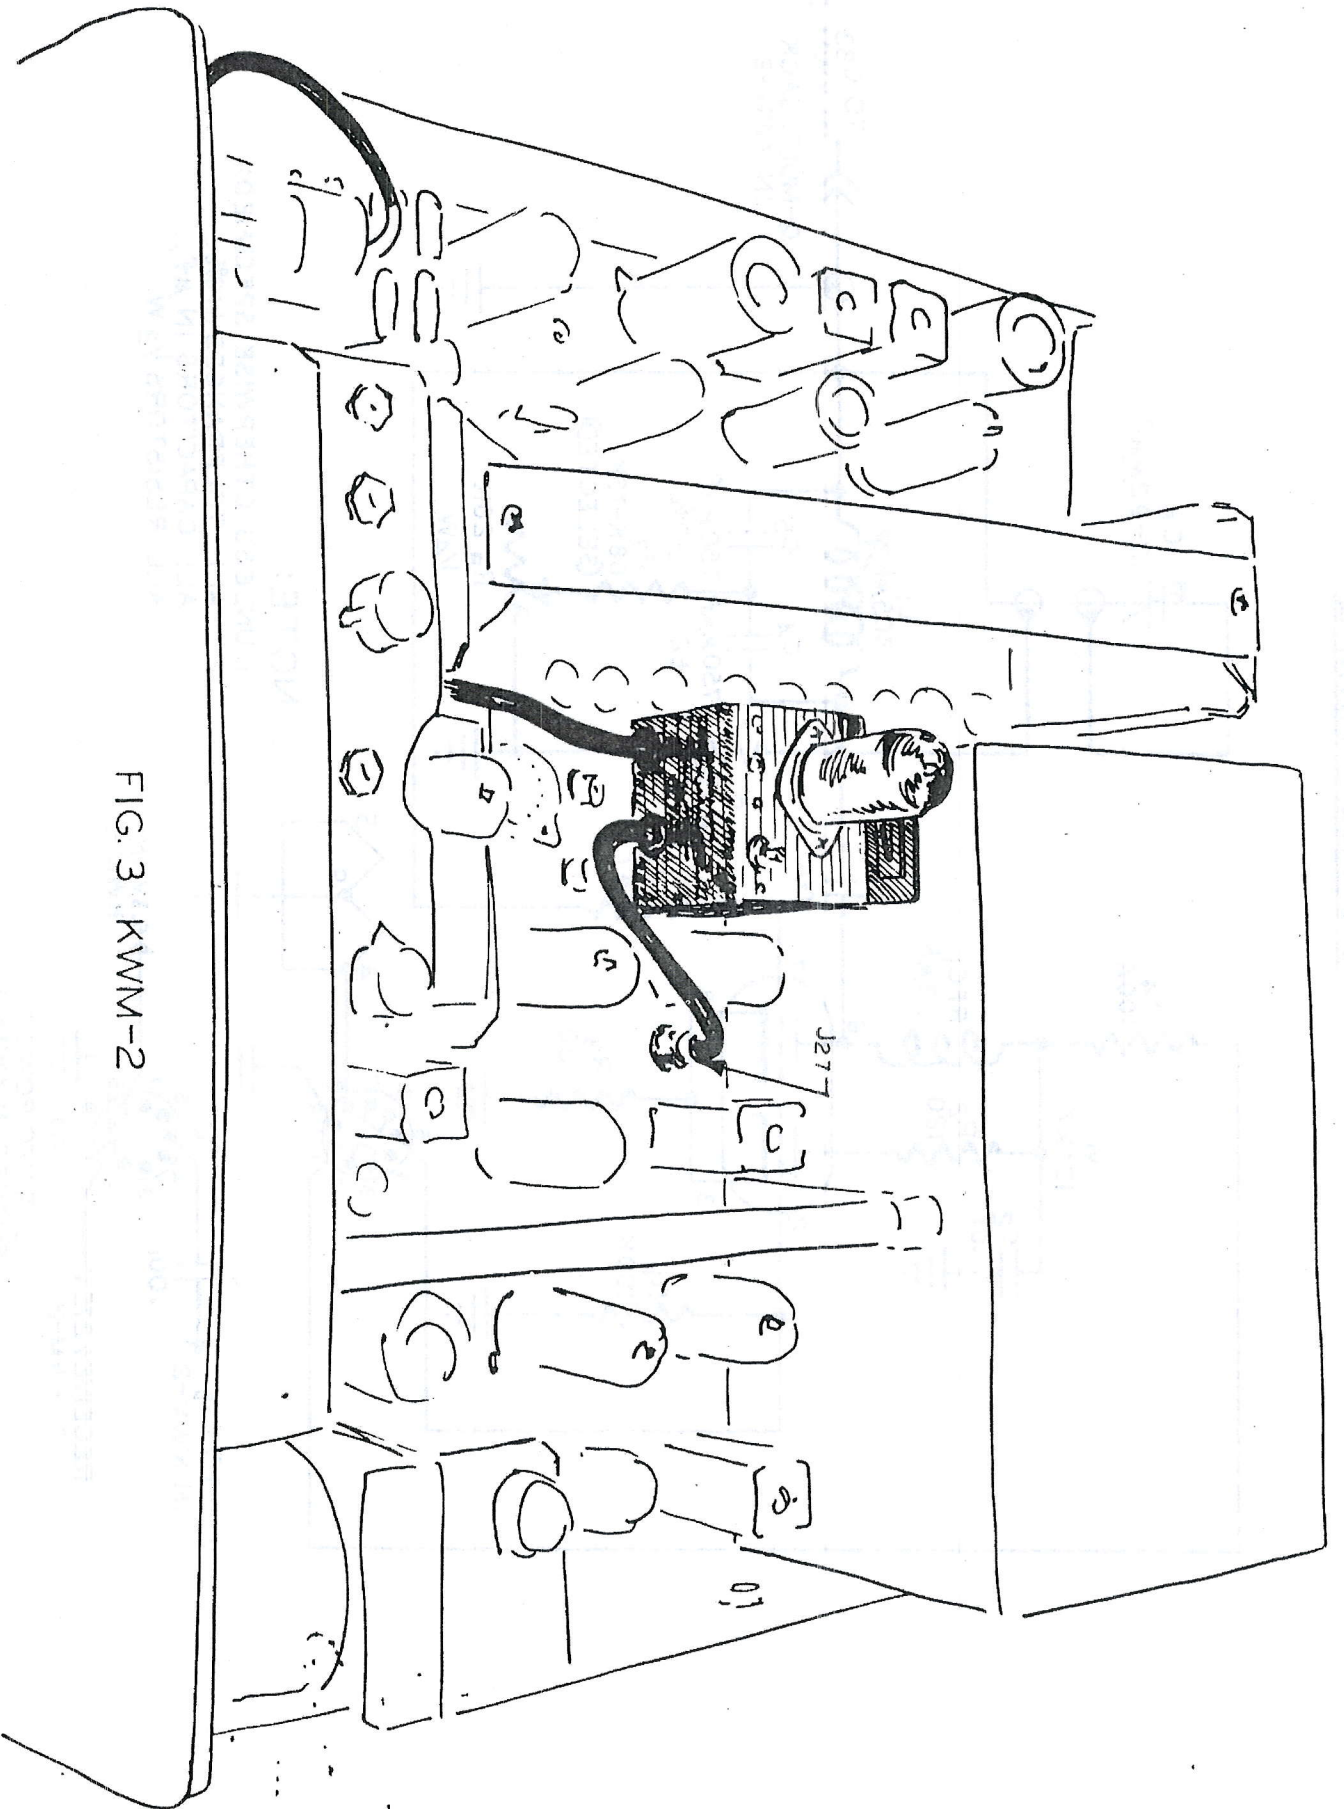

FIG. 3 KWM-2
28. Plug the Notch Filter box into J17 (the external VFO power socket) and the cable with the phono connector on the end into the "Q-Multiplier" jack. (J27). See Fig. 3.